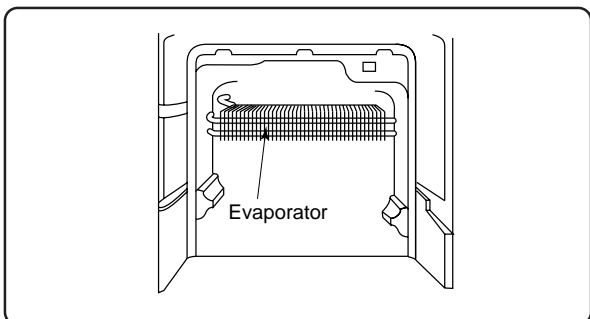

Fig. A-18
(1)-3. As shown in Fig. A-18, bend the removed Evaporator horizontally so that Defrost heater can be replaced easily.